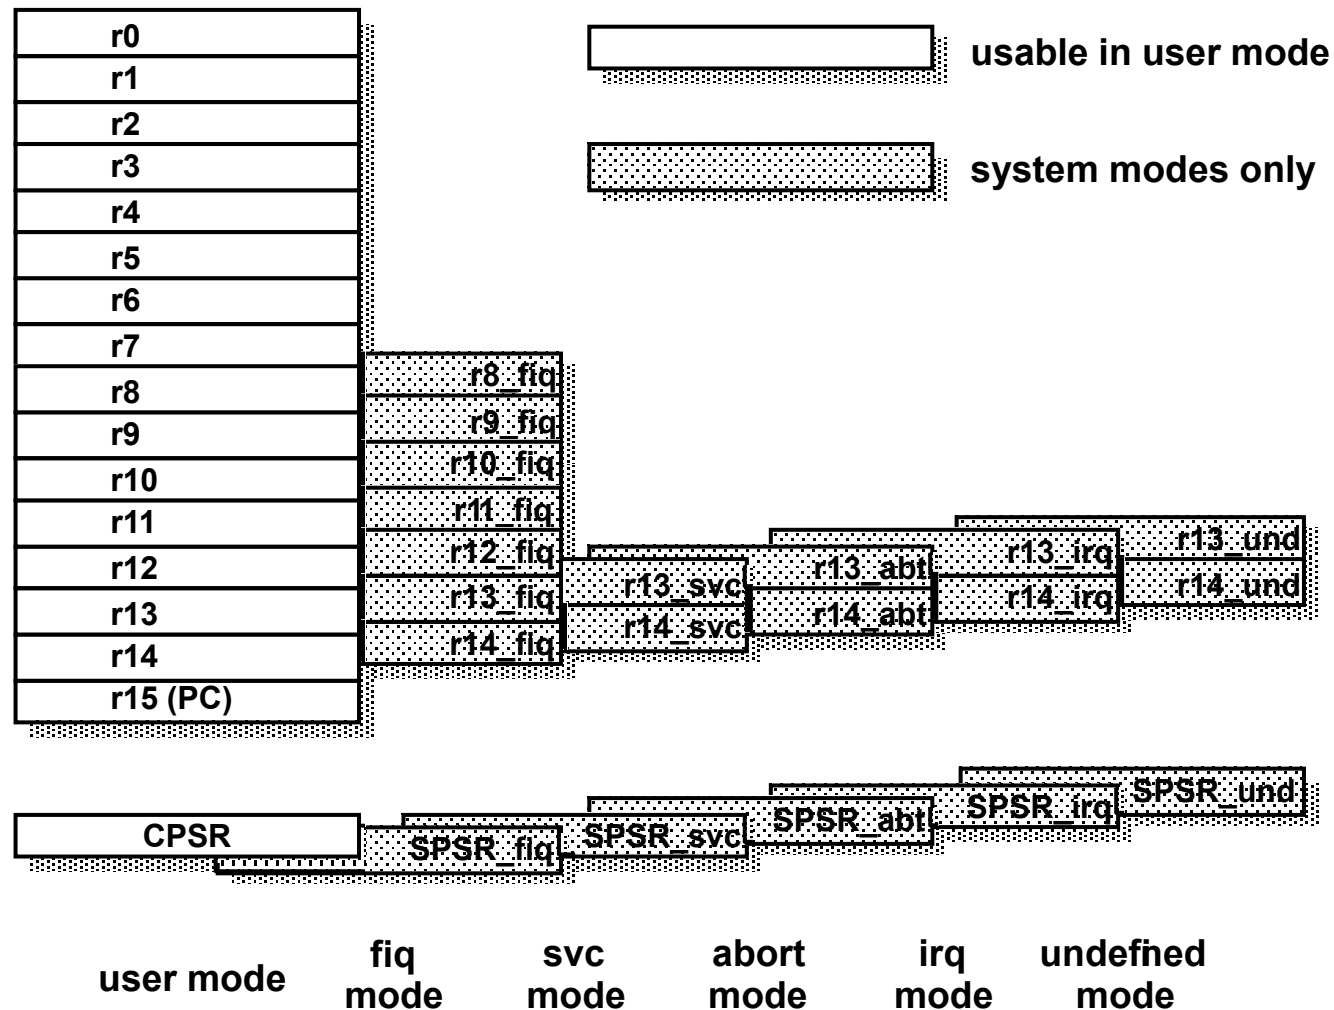

Fig. 2.1 ARM's visible registers
- ◆ Although a processor will typically have many invisible registers involved in executing an instruction, the values of these registers before and after the instruction is executed are not significant; only the values in the visible registers have any significance (Fig. 2.1)